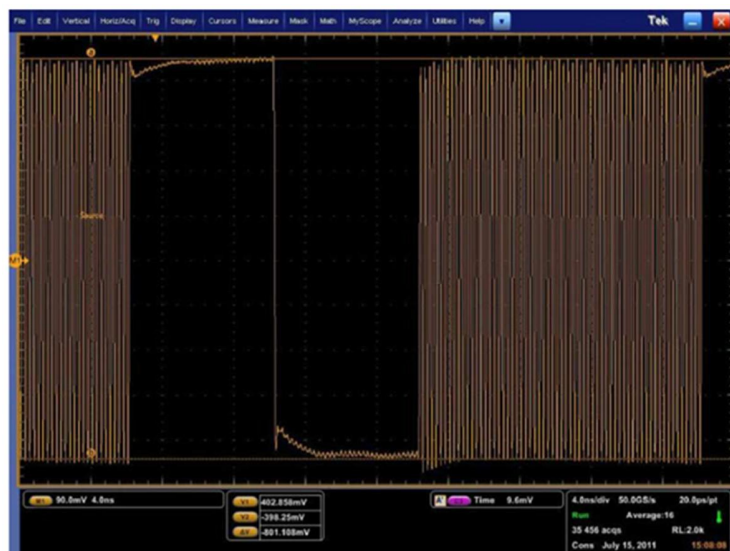

FIGURE 63. AMPLITUDE EQUALIZATION SETUP
3. Tune the DPP Post Cursor until the low frequency and high frequency component of amplitude is same level. See Figure 63.